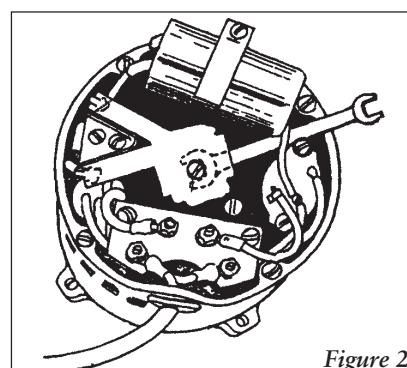

Figure 2
A.O. SMITH MOTORS - Remove motor end cover. Insert $\frac{7}{16}$ " open end wrench, under switch mechanism onto flats on motor shaft. While holding the shaft against rotating, turn the impeller counterclockwise. The impeller should turn completely off the shaft in this manner. *See figure 2.*